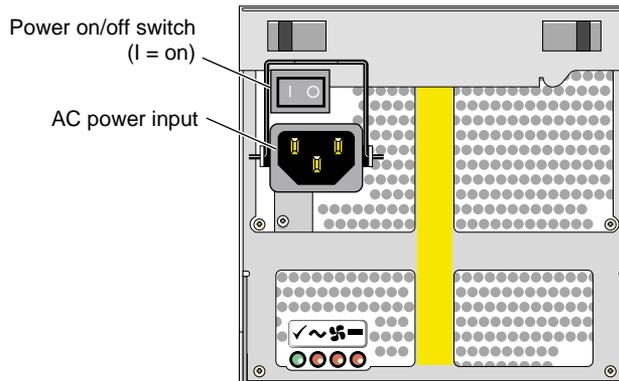

Figure 1-24 D-brick2 PSU/cooling Module Power Switch
1. Move the power switch on the rear of each PSU/cooling module to the “off” position (position **I** = on, **O** = off). The location of the power switch on the D-brick2 PSU/cooling module is shown in Figure 1-24.